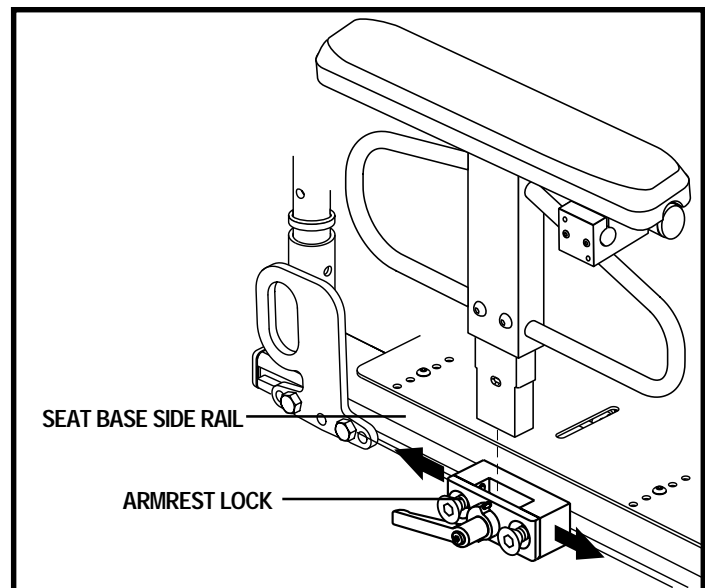

Figure 11. Armrest Position Adjustment
2. Loosen the hardware that fasten the armrest lock to the seat base side rail. See figure 11.
5. Install the armrest in the armrest lock. See figure 11.